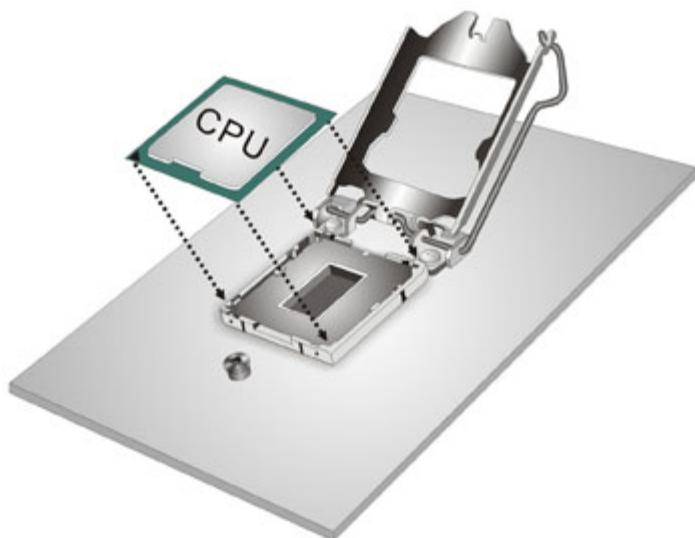

Figure 4-3: Insert the Socket LGA1150 CPU
- Step 7: Insert the CPU.** Gently insert the CPU into the socket. If the CPU pins are properly aligned, the CPU should slide into the CPU socket smoothly. See **Figure 4-3.**